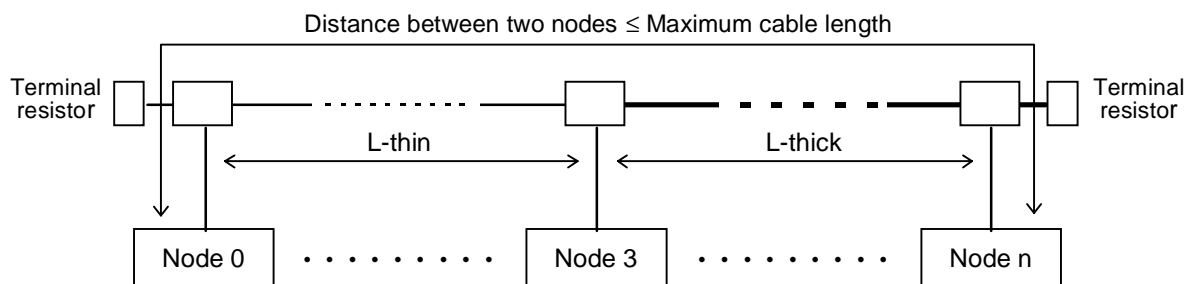

Figure 1.7 Distance Between Two Nodes on a Network with Drop Lines
- c) Figure 1.7 shows the **maximum distance between two nodes** in the case that the trunk line consists of Thick Cable and Thin Cables and that drop lines are connected. Use the formulas in Table 1.3. for calculating the **maximum cable length**.
For Figure 1.7, the maximum trunk line length between node 0 and node n is equal to the maximum cable length (value in Table 1.3) minus the total length of the drop lines for node 0 and node n.